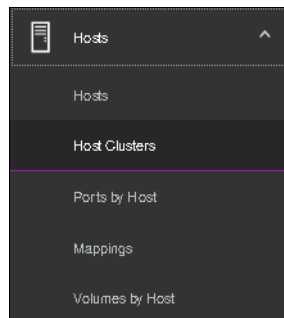

Figure 5-117 Host Clusters
1. Select **Hosts** option under the **Host Clusters** section on the main panel as shown in Figure 5-117.